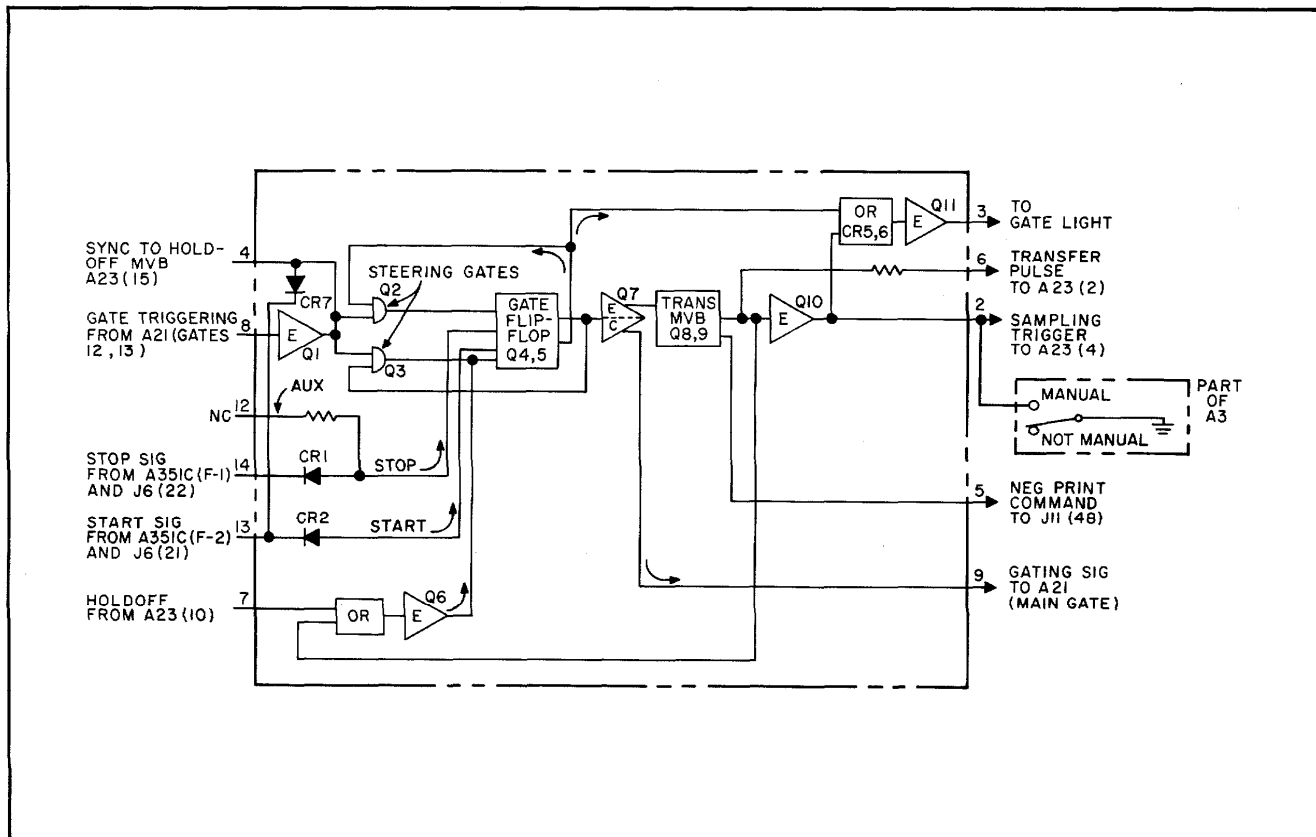

Figure 2-18. Gate Control Block Diagram
**2-96. GENERAL.** The main function of the gate control assembly is to generate the gating signal (which controls the main gate in A21) and the sampling trigger (which starts the sample-rate multivibrator in A23). Refer to the block diagram, Figure 2-18, during the following discussion.